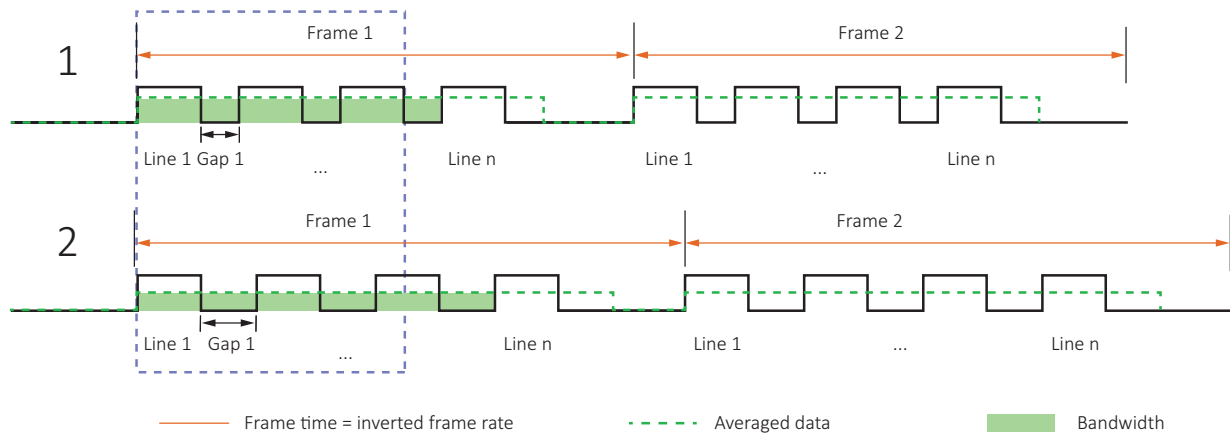

Figure 93: Sensor data output and camera data output
Figure 93 shows the bandwidth for a higher (1) and a lower (2) value for `DeviceLinkThroughputLimit` with Alvium G1.
- When high-resolution Alvium G1 cameras are operated at higher frame rates, corrupted frames can occur. This is shown schematically in Figure 93.